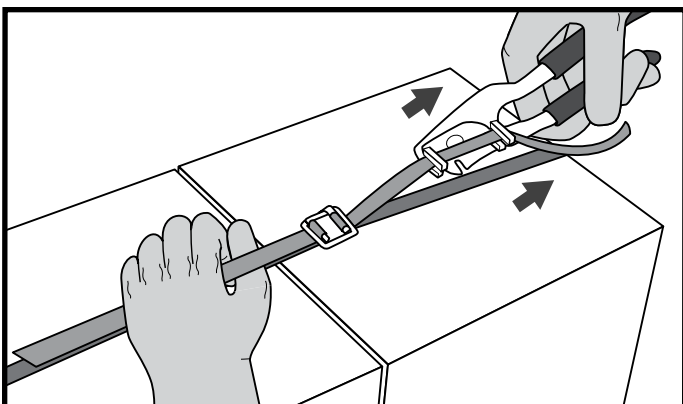

Figure 2
2. Pull the Tensioner/Cutter until poly strapping is tensioned as needed. If necessary, hold down opposite side of strapping with gloved hand to prevent slipping. (See Figure 2)